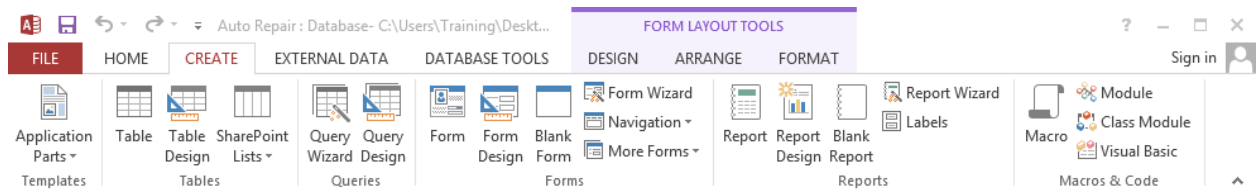

Figure 1: Form Button in the Forms Group of the Ribbon
6. **Open the New Form Window:** Select the *Customer* table in the Navigation pane. Choose **Create → Form** from the Forms group of the Ribbon (Figure 1). A new tab appears, with your form in Layout view. You will see the finished form as depicted in Figure 2.